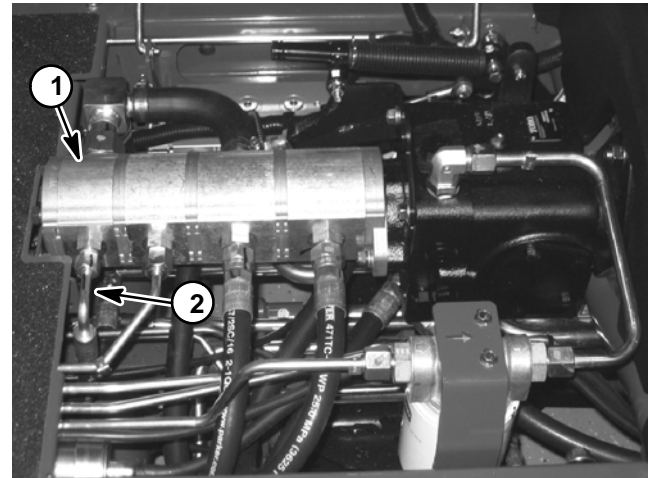

Figure 54
5. Thoroughly clean both ends of the hydraulic hose that connects gear pump (P4) outlet (Fig. 54) and lift control manifold P4 port. Remove hydraulic hose. Access to hydraulic hose at lift control manifold can be obtained from below the machine.